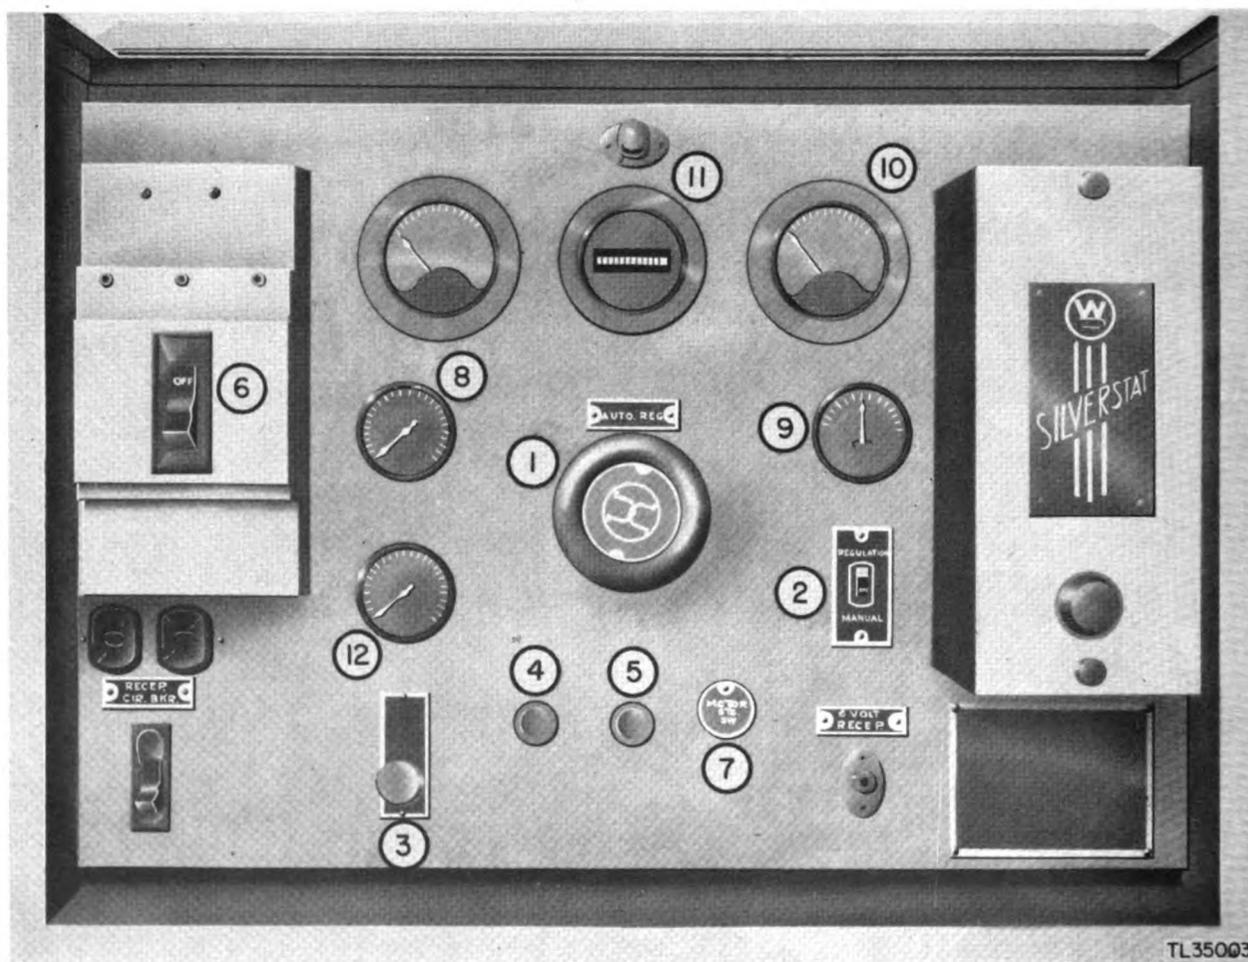

Figure 35. Power Unit PE-127-A controls.
(9) Apply the load by throwing the **CIRCUIT BREAKER** ③ switch to the ON position and proceed with the regular starting procedure of the radar set itself.
(10) When the radar set has been shut down, turn the generator off by opening the **CIRCUIT BREAKER** ③ and, after a few minutes, turning the **IGNITION** switch ① to the OFF position.
**c. POWER UNIT PE-127-A (FIG. 35).**
(1) Turn the **FIELD RHEOSTAT** ① to the AUTO position and turn the **VOLTAGE REGULATOR** switch ② to the ON position.
(2) Turn the **IGNITION** switch ③ to the ON position. When the engine starts and the oil